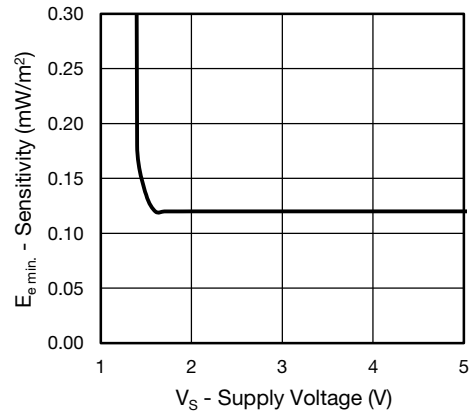
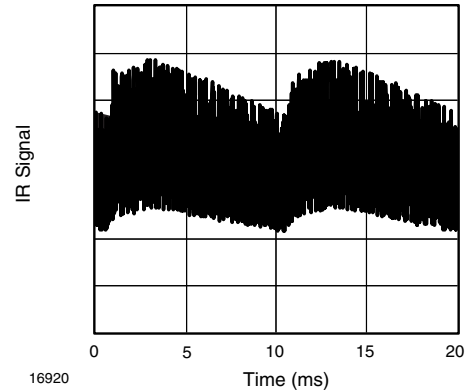

Fig. 12 - Sensitivity vs. Supply Voltage
Fig. 13 - IR Signal from Fluorescent Lamp with Low Modulation
- Strongly or weakly modulated noise from fluorescent lamps with electronic ballasts (see figure 12 or figure 13)